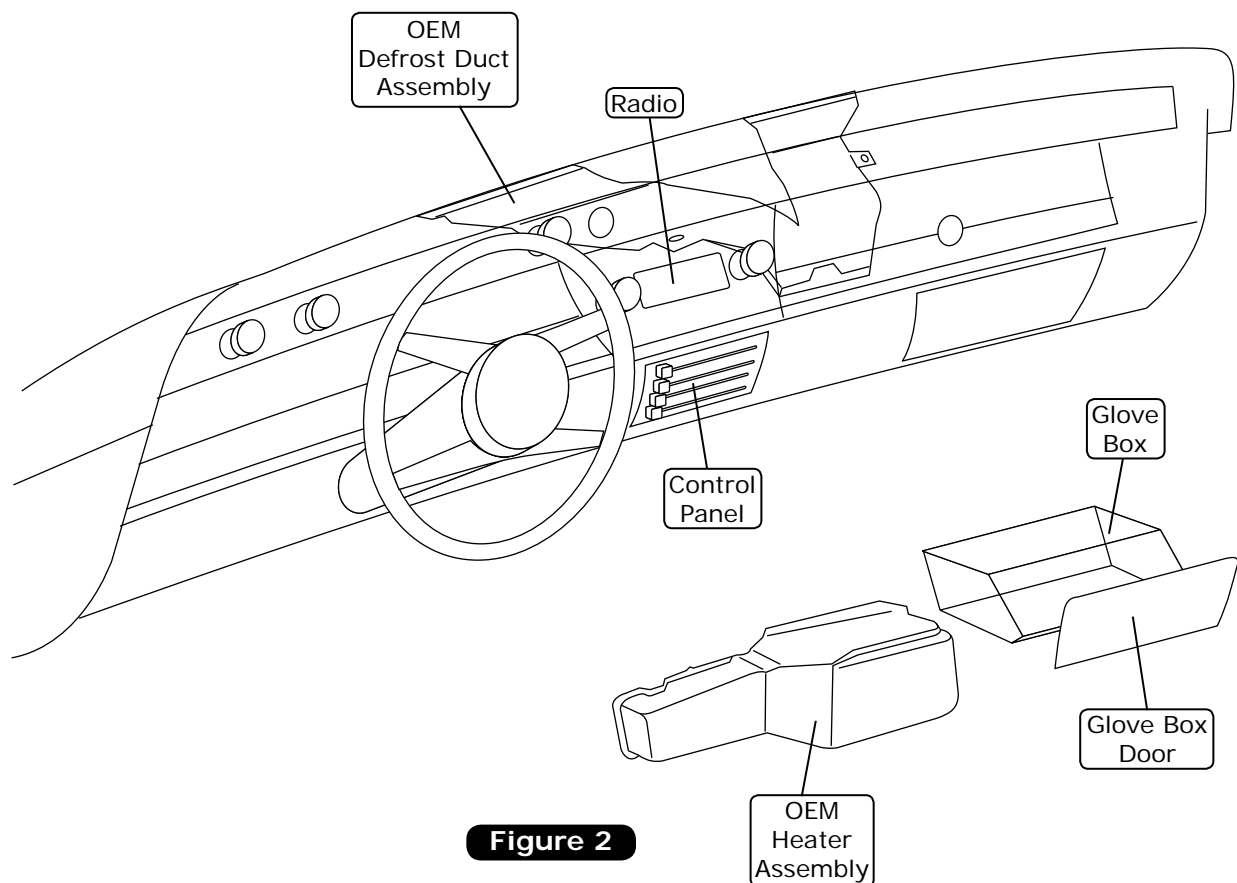

Figure 2
1. Remove glove box door (retain) (See Figure 2, below).
2. Remove glove box (discard) (See Figure 2, below).
5. Remove OEM defrost duct assembly (discard) (See Figure 2, below).
6. Remove OEM control panel (retain) (See Figure 2, below).
7. Remove Radio (retain) (See Figure 2, below).
8. Remove OEM heater assembly (discard) (See Figure 2, below).